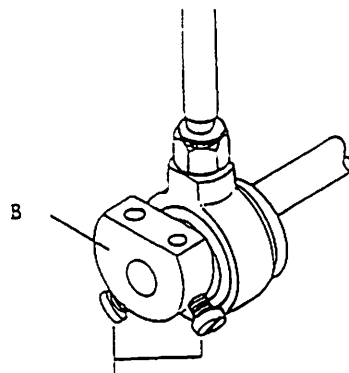

FIG 16
a). Synchronization to needle bar (Fig 16). Inward motion of needle bar and the point of needle is located within the thickness of presser foot (1.5mm higher than surface of needle plate), puller should start to be effective. Loosen screw A and secure the location of eccentric. Tighten screw A after adjustment is done.